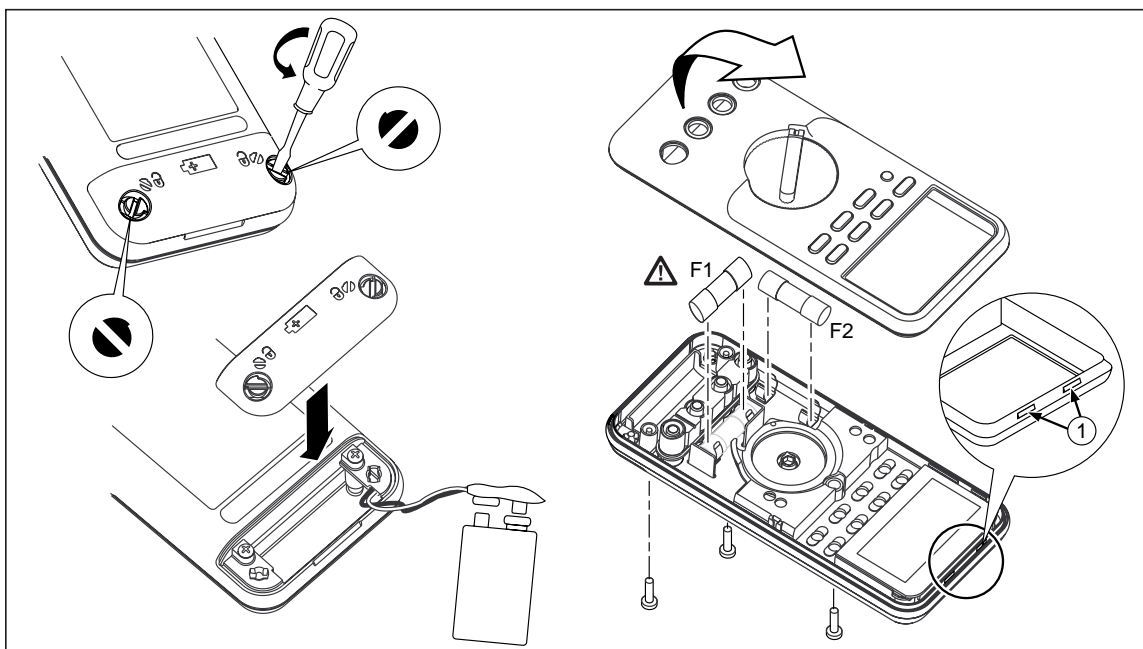

Figure 2. Battery and Fuse Replacement
6. Gently unsnap the case top at the display end. (See Figure 2).
2. Place the case top on the case bottom, ensuring that the gasket is properly seated and the case halves snap together above the LCD end. (See Figure 2.)
To replace the battery, refer to Figure 2 and do the following:
To replace the Meter's fuses, refer to Figure 2 and do the following:
8. Place the case top on the case bottom, ensuring that the gasket is properly seated and the case halves snap together above the LCD end. (See Figure 2.)